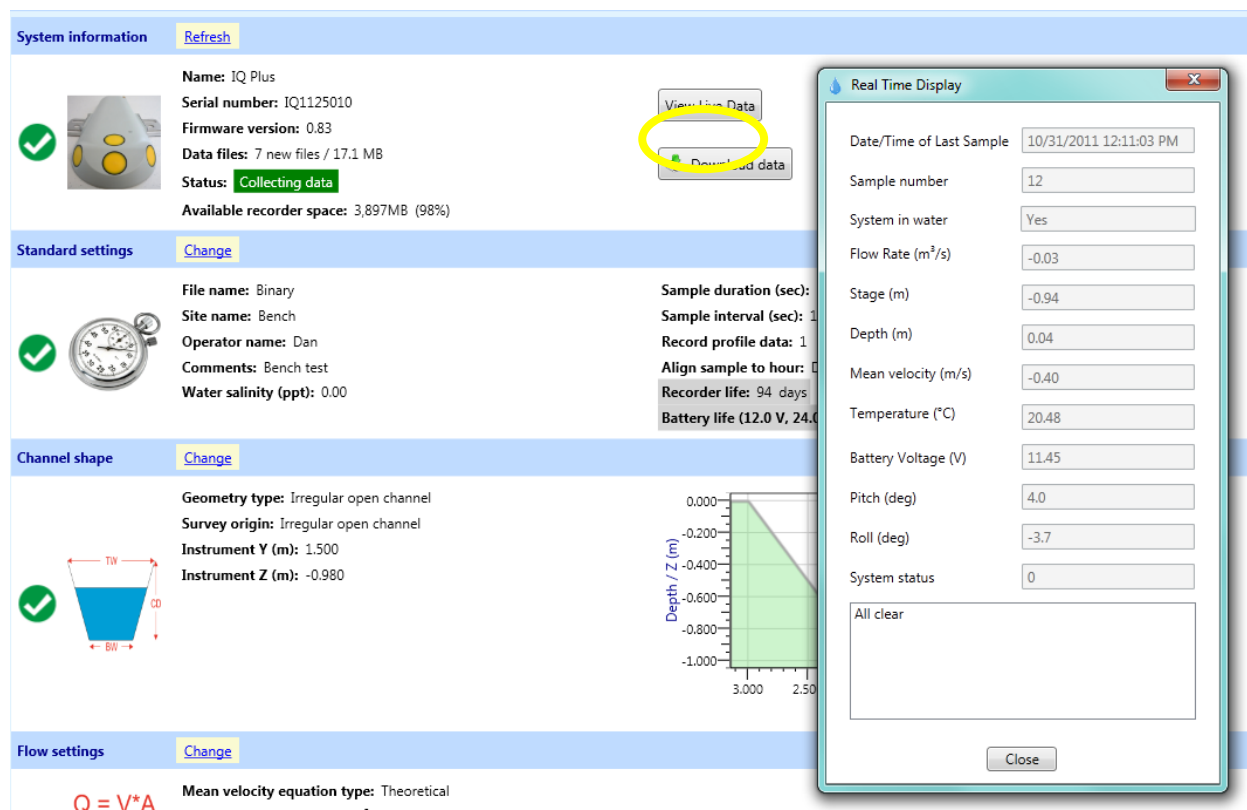

Figure 74. View live data window
- The SonTek binary output format type must be selected to use **View Live Data** from the IQ software. Selecting **View Live Data** (Figure 74) on the IQ Smart Page shows a summary of the last measurement from the system. This function can be useful to view the latest data, or to check the orientation (pitch and roll) of the IQ during the installation process.